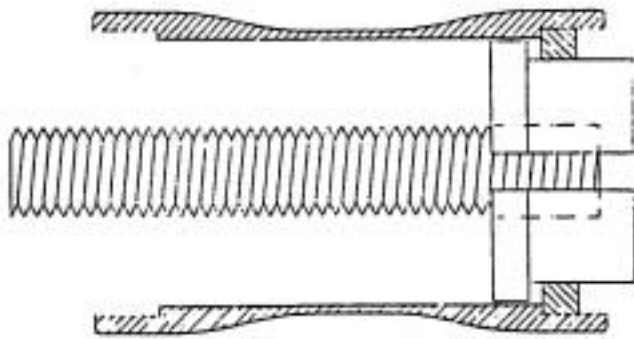

Figure 5: The bearing pusher halves inside the headtube. (Notice how the threaded rod separates the halves.)
- A) 8. The bearings in the head tube are removed with the bearing remover (parts E). Remove all nuts and tools from the end of the threaded rod. Slide the two halves of the bearing remover, one at a time and large side first, through the bearing to be removed. After both sides of the bearing remover are through the lower bearing, separate the halves so that the bearing remover sits on the bearing (see Fig. 5).